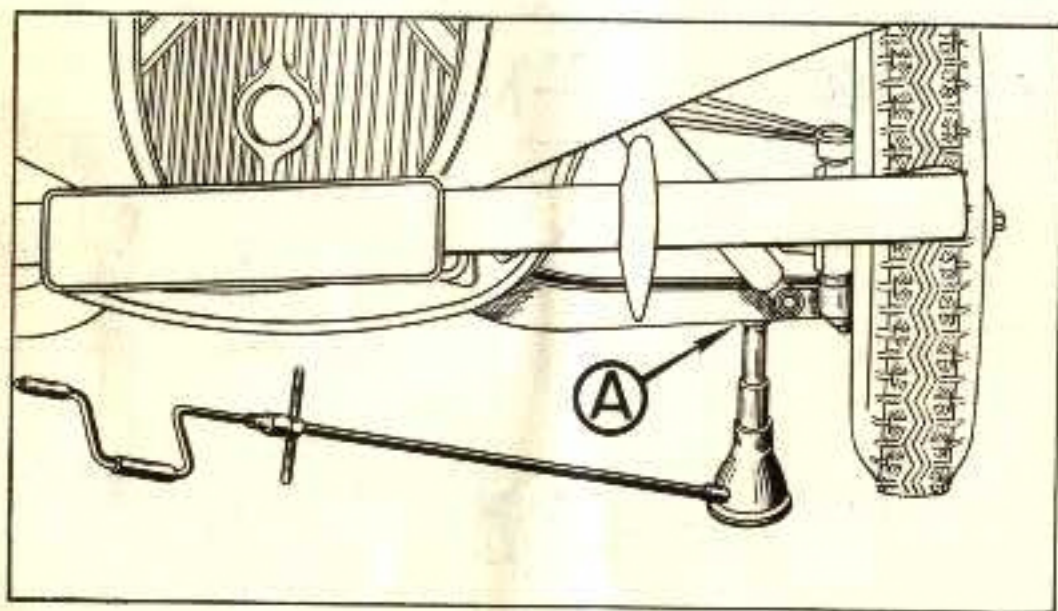

Fig. 5. — FRONT JACKING POSITION.
- at the front, under the boss at the outer end of the lower link arm (fig. 5);
Use of the jack.—Unscrew the head of the jack by hand until it will just go under the jacking pad A or C (fig. 5 or 6); rotate the jack handle until the car starts to lift, then use the wheelbrace; do not try to strain the jack when it is extended.